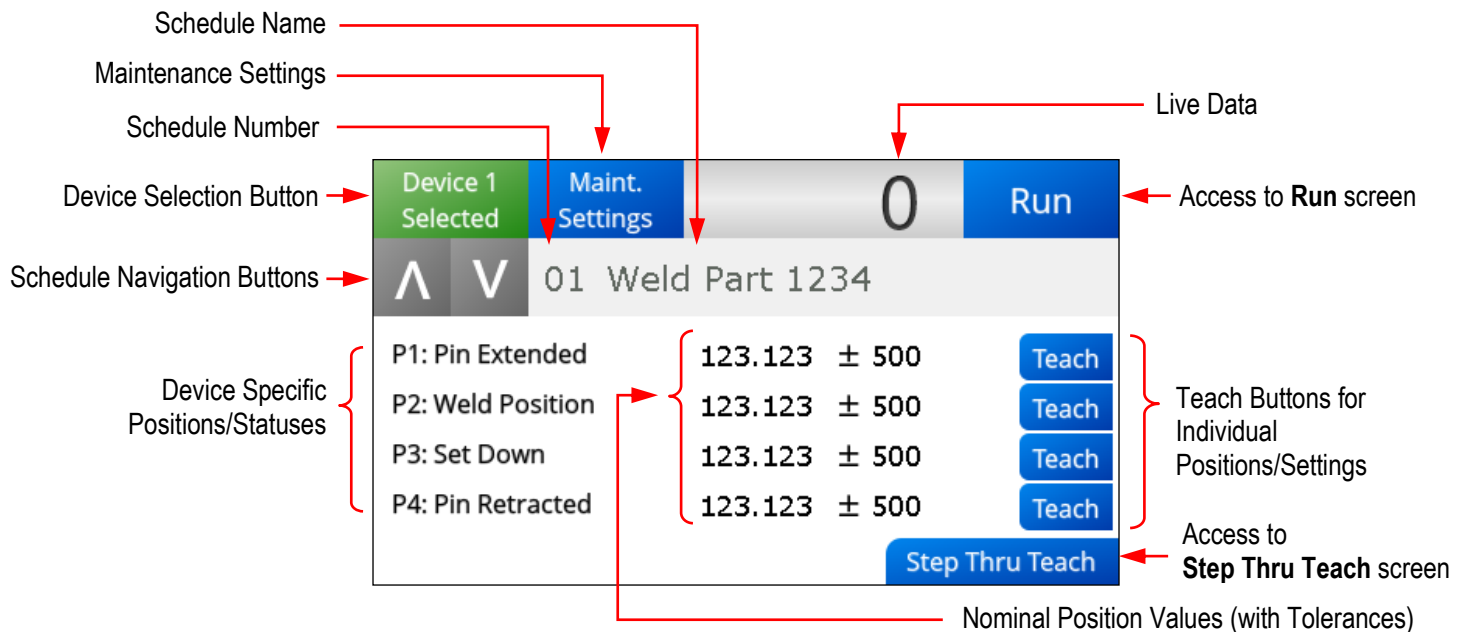

Figure 13 – Teach Screen
The following areas can be identified on the Teach screen (see Figure 13 above):
- Device 1 Selected** – Allows the user to select between the two devices connected to the MicroView, with the intent of teaching schedules for the selected device. In Figure 13 above, for example, Device 1 is a VeriFast™ LVDT (or IA). The user can now select or define a schedule for the current device. Within the current schedule, the user can program the P1, P2, P3, and P4 positions/statuses listed on the screen. See the bullets that follow.
- **Nominal** (position value) – This field indicates the already taught value (if any) for the currently selected position/status (P1, P2, P3, or P4). (**Note:** This value corresponds to the *Nominal Position Values* shown in Figure 13 – Teach Screen on page 31).